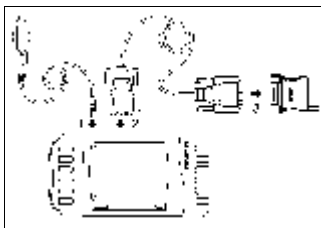

Fig.2.2
1. From cigarette lighter. Insert one end of the cigarette lighter cable into the lighter socket in vehicle and connect the other end to the power connector of **Star** main unit (see step 1 in Fig.2.2).